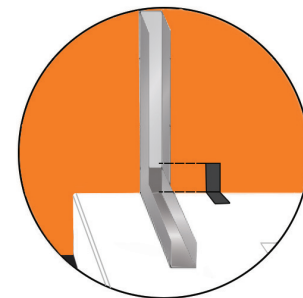

FIG 7.
- Slide wall channel on top of floor channel, making sure they butt up to each other and insert channel connector inside 'wall to floor' joint to help line up the wall channel (FIG 7).